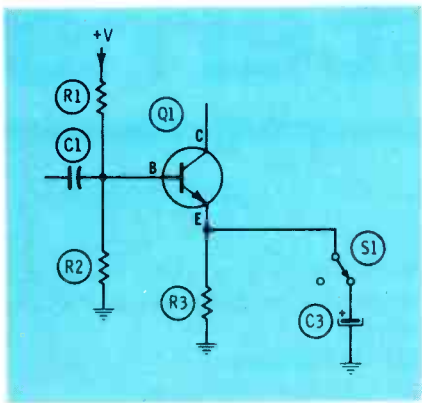

Figure 4
16. In Figure 4, selecting a large value of emitter capacitor (C3) will: